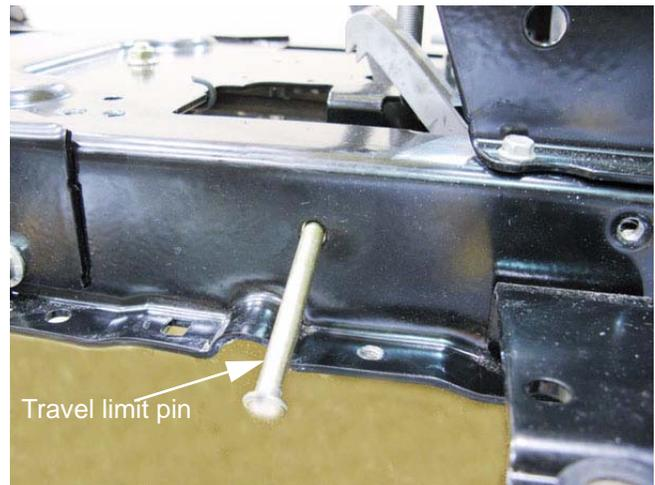

Figure 6.20
- A travel limit pin passes through curved slots in both of the latch plates. The pin is blocked into place by the fenders. See Figure 6.20.